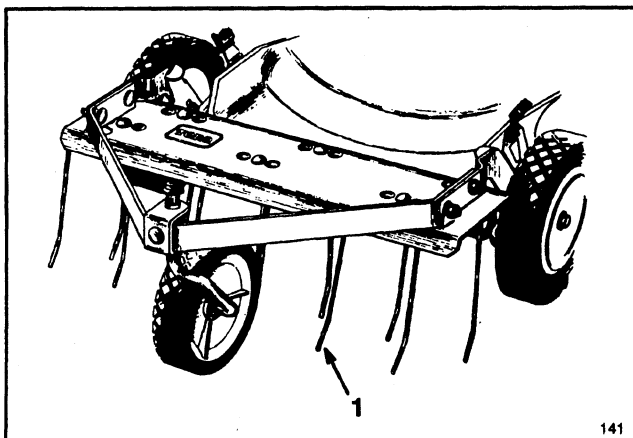

Figure 24
1. **Dethatcher Kit, Model No. 59131**—Installs in minutes. Front mounted for easy maneuverability. Spring tines loosen thatch for clean vacuuming into grass bag (Fig. 24) and convenient disposal.